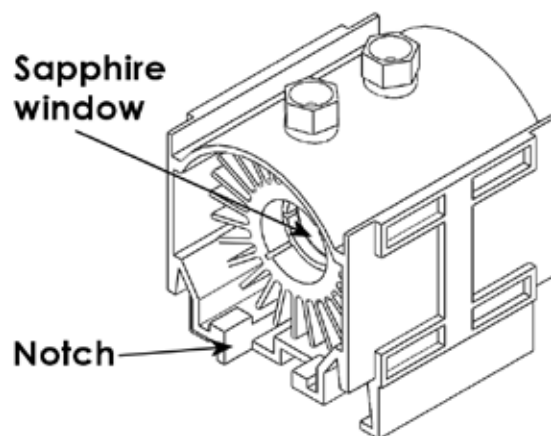

Figure 7. Position of the bulb/heat sink assembly in the blue housing.
| Figure 7. Position of the bulb/heat sink assembly in the blue housing.....        | 7  |
4. Insert the heat sink/bulb assembly into the blue housing. Make sure the SAPPHIRE WINDOW side (output) is the same side as the notch in the blue housing (Figure 7). Screw in the terminals (the one located closer to the sapphire window has smaller threads than the other) slightly more than hand tight to complete the bulb installation in the blue housing.